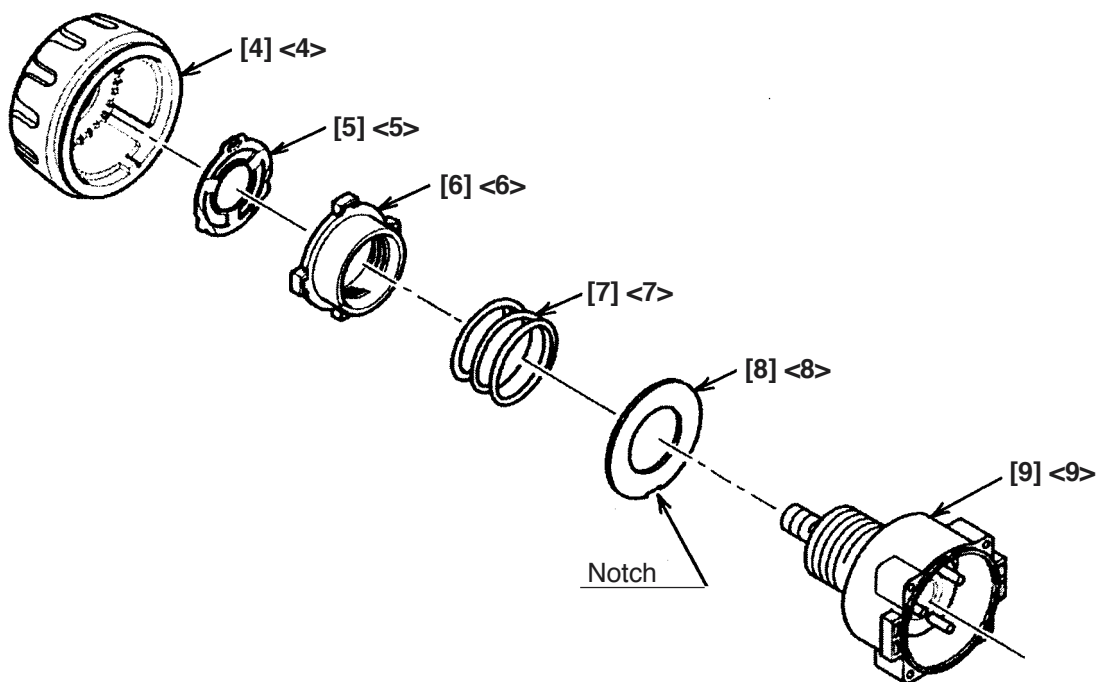

Fig. 6
- (a) Mount Washer (D) [8] <8> and the Spring [7] <7> to the Front Case [9] <9>. (See Fig. 6.)